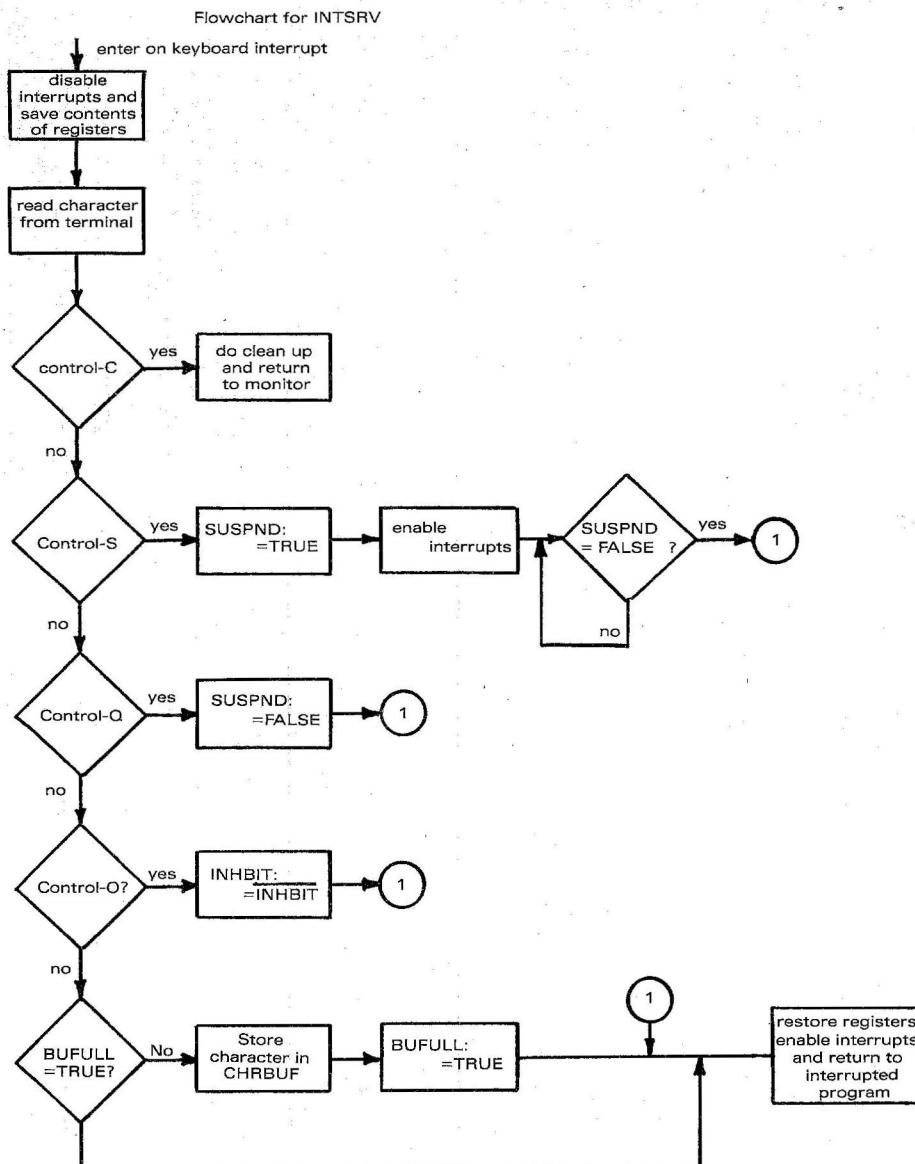

Figure 2
1. INTSRV - The interrupt service routine (See Figure 2)